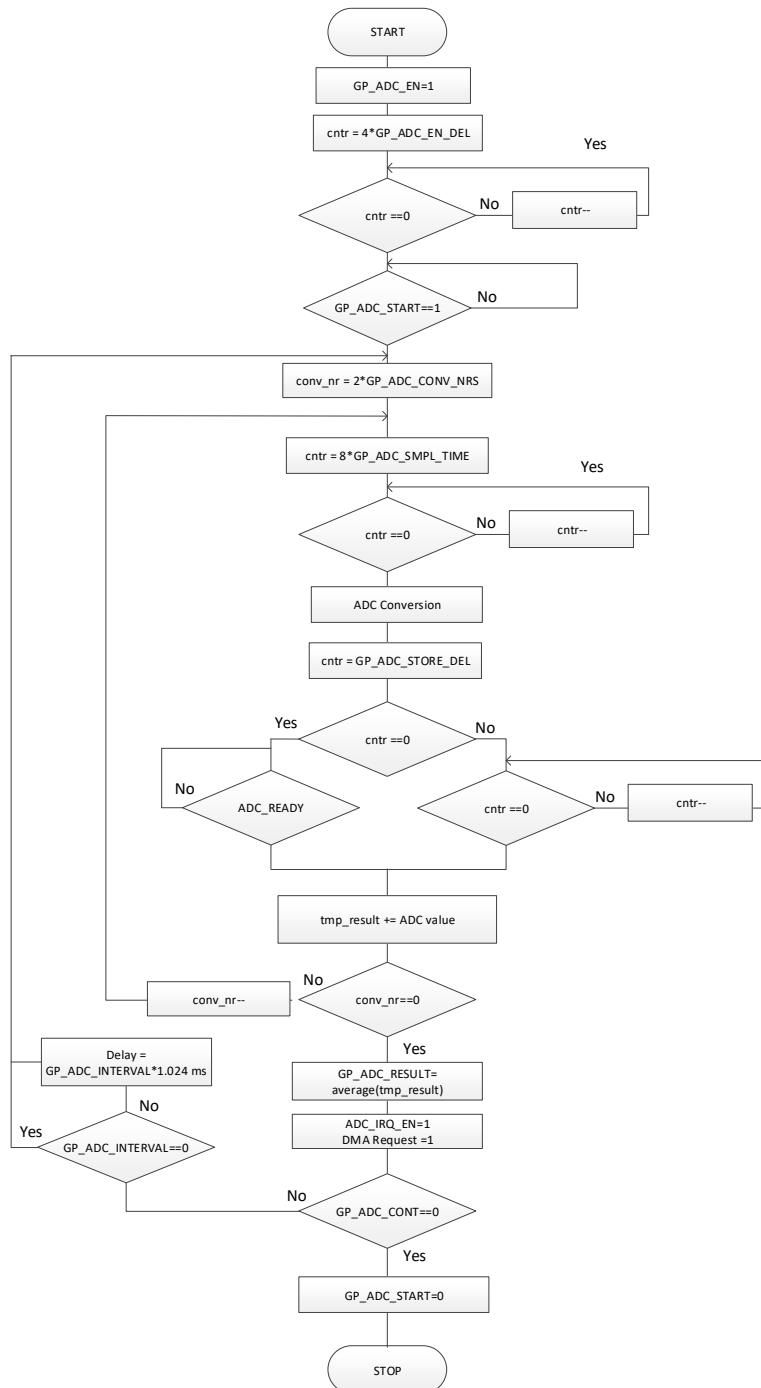

Figure 44. GPADC operation flow diagram
**Figure 44** shows the GPADC operation flow diagram.